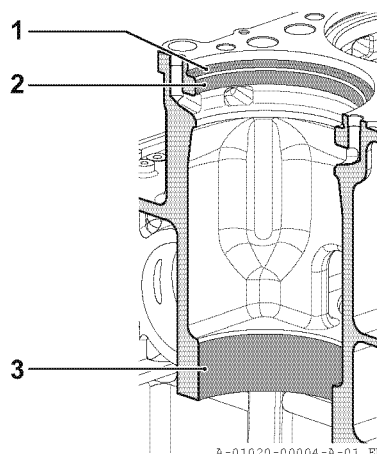

Fig.3 Locations for liquid packing and silicone oil
2. When you install the liner, apply liquid packing or silicone oil to the mating parts of the cylinder liner and cylinder block. (Refer to Fig. 3.)